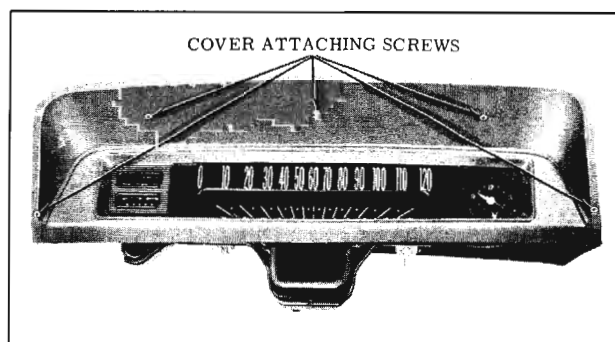

Fig. 13-101 Cover Removal
1. Remove cluster cover attaching screws and remove cover. (Fig. 13-101) Disconnect wiring harness, clock wiring, and speedometer cable at the cluster.
1. Remove cluster cover. (Fig. 13-101)